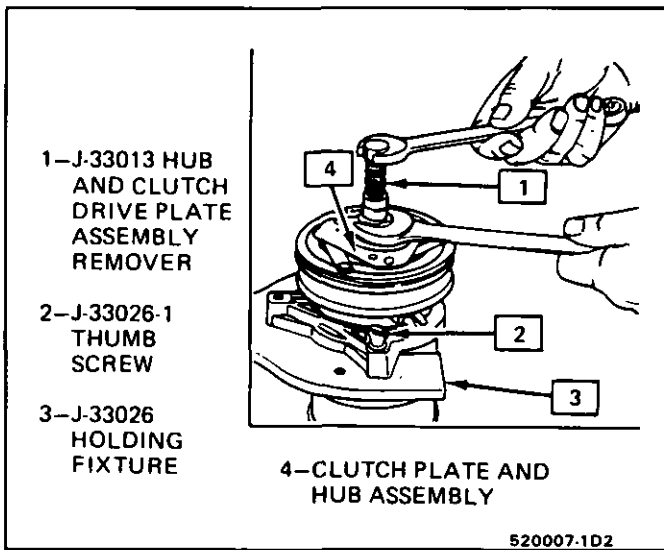

Fig. 7 Clutch Plate and Hub Assembly Removal
3. With center screw forcing tip in place to thrust against the end of the shaft, thread the Clutch Plate and Hub Assembly Remover J-33013, into the hub. Hold the body of the remover with a wrench and turn the center screw into the remover body to remove the clutch plate and hub assembly (Fig. 7).